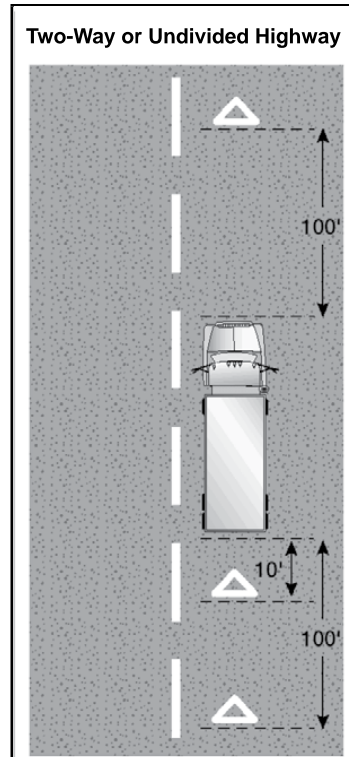

Figure 2.9
- If you stop on a 2-lane road carrying traffic in both directions or on an undivided highway, place warning devices within 10 feet of the front or rear corners to mark the location of the vehicle and 100 feet behind and ahead of the vehicle, on the shoulder or in the lane you stopped in. See Figure 2.9.